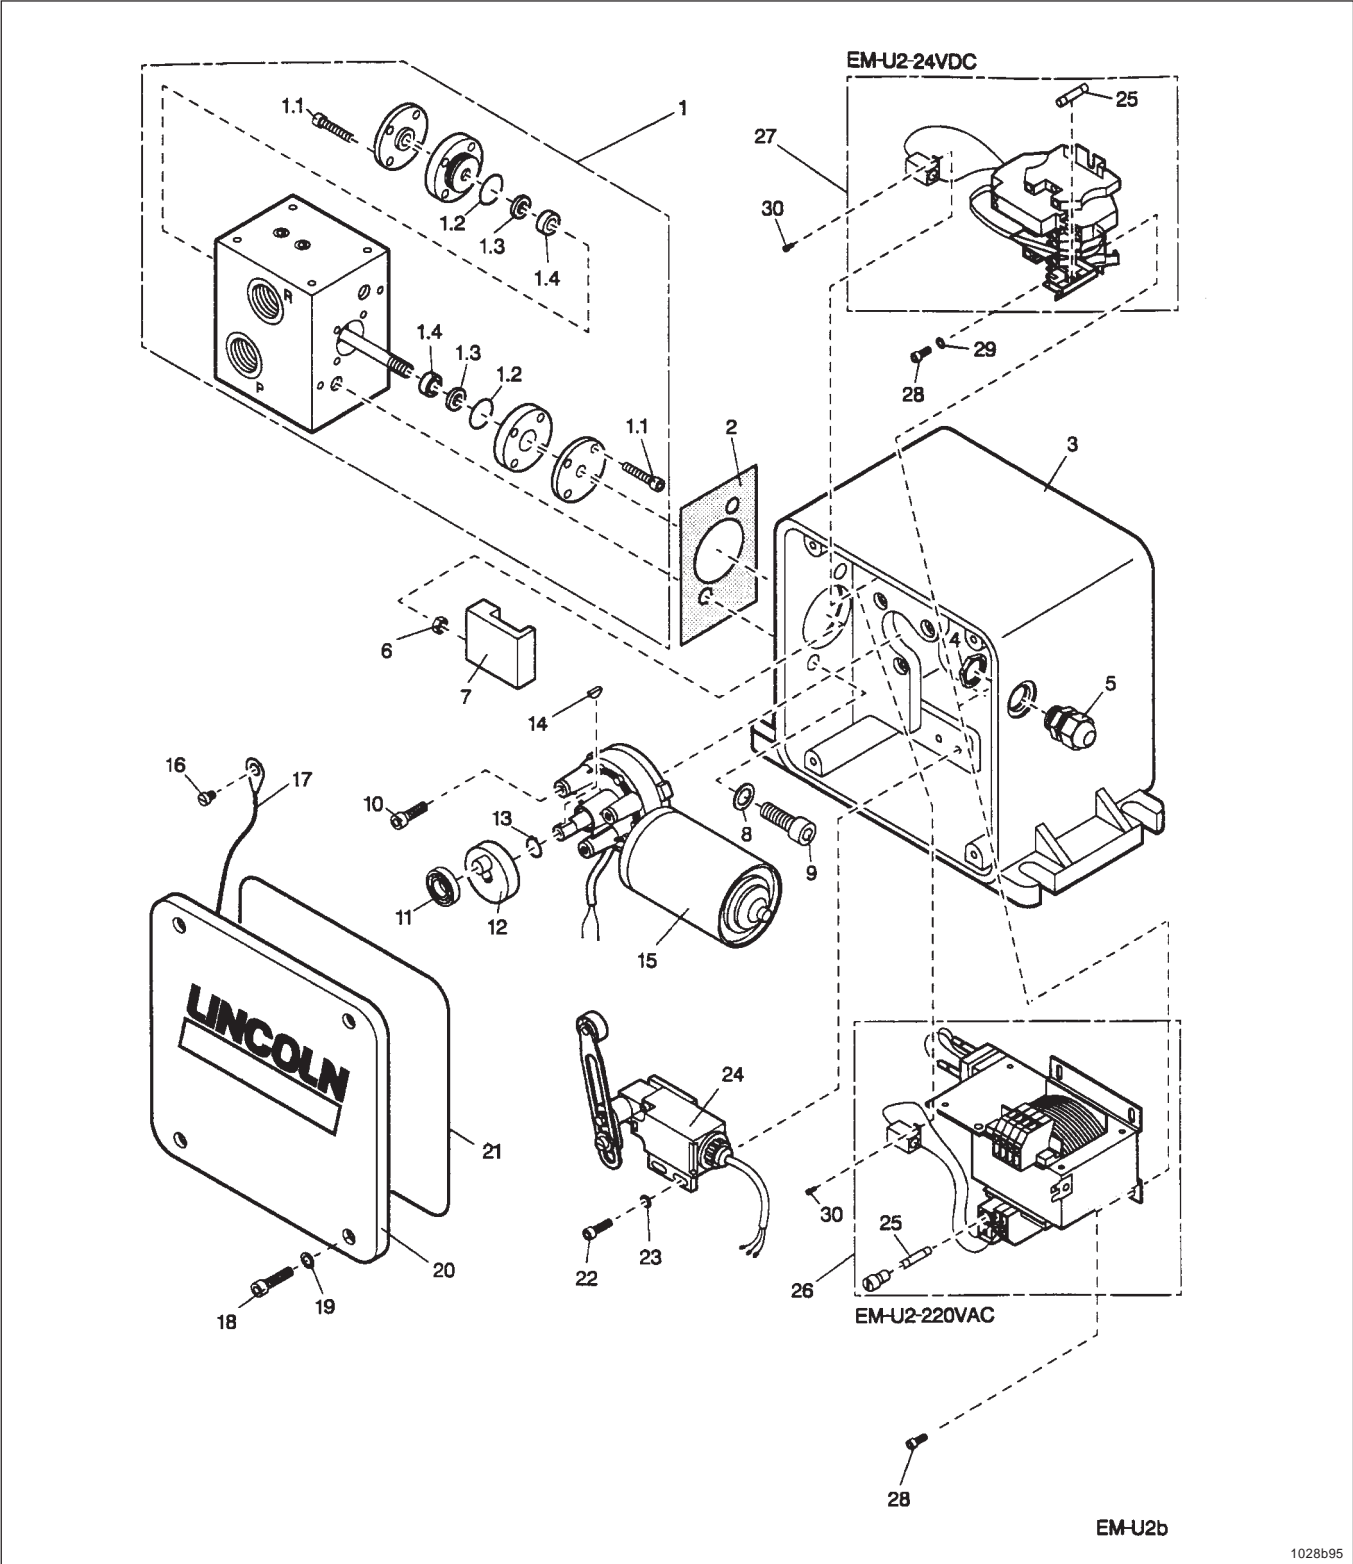

Fig 12: spare parts
| <ul style="list-style-type: none"> • Cause: • Line system or two-line metering devices leaking • Piston and/or change-over valve housing worn | <ul style="list-style-type: none"> • Remedy: • Check the lines and metering devices • Replace the complete change-over valve housing (refer to Fig. 12, item 1) |
- The eccentric continues to operate for a short moment after the impulse of the position switch. Check internal wiring of the terminal strip (for the 24 V DC version refer to Fig. 12, item 27) and that of the rectifier (for the 230 V AC version refer to Fig. 12, item 26)